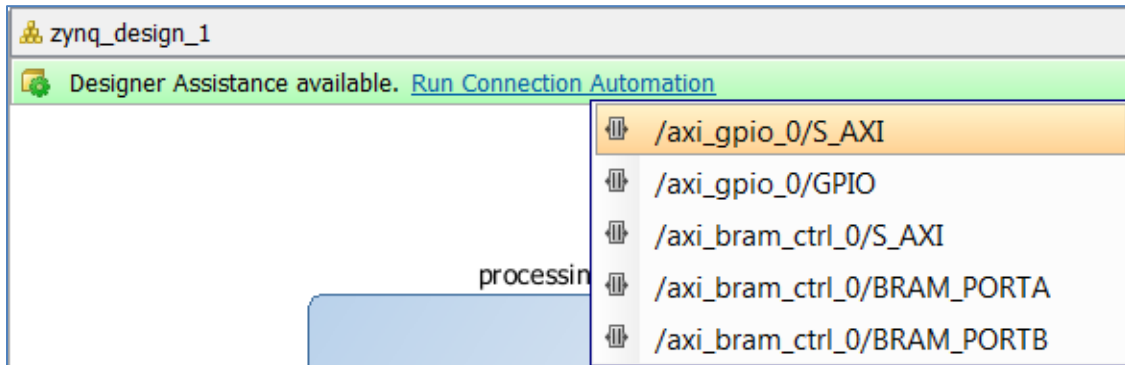

Figure 10: Run Connection Automation
1. Click **Run Connection Automation** and then select **/axi_gpio_0/S_AXI** to connect the S_AXI interface of the GPIO IP to the Zynq PS (FIGURE 10).